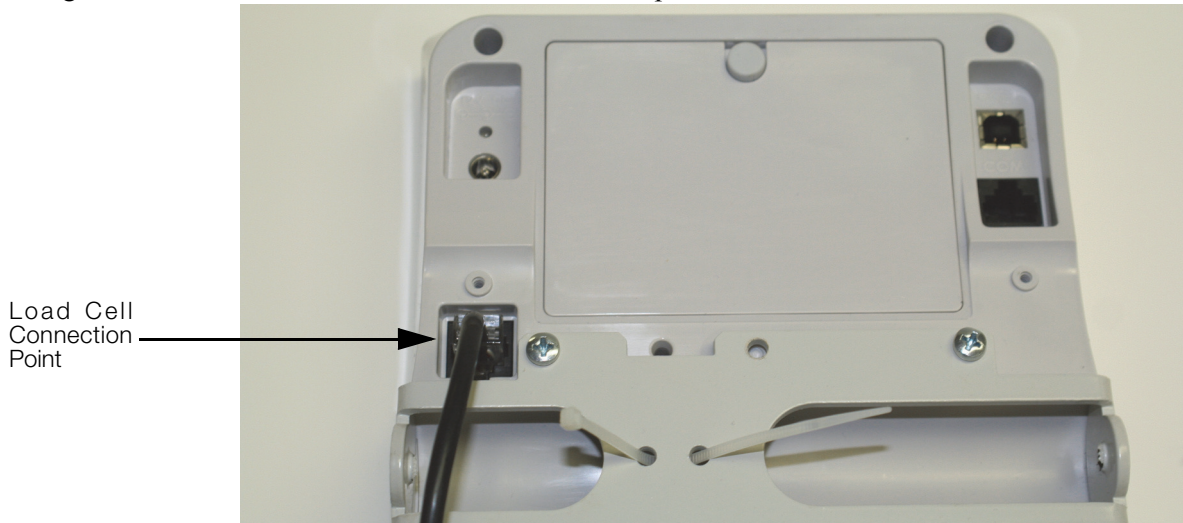

Figure 4-3. Load Cell Connection Point
3. Figure 4-3 illustrates where the load cell connection point is located.
Plug the end of the load cell cable into the load cell connection point shown in Figure 4-3. There will be a “click” when the load cell cable has been properly seated into the connection point.